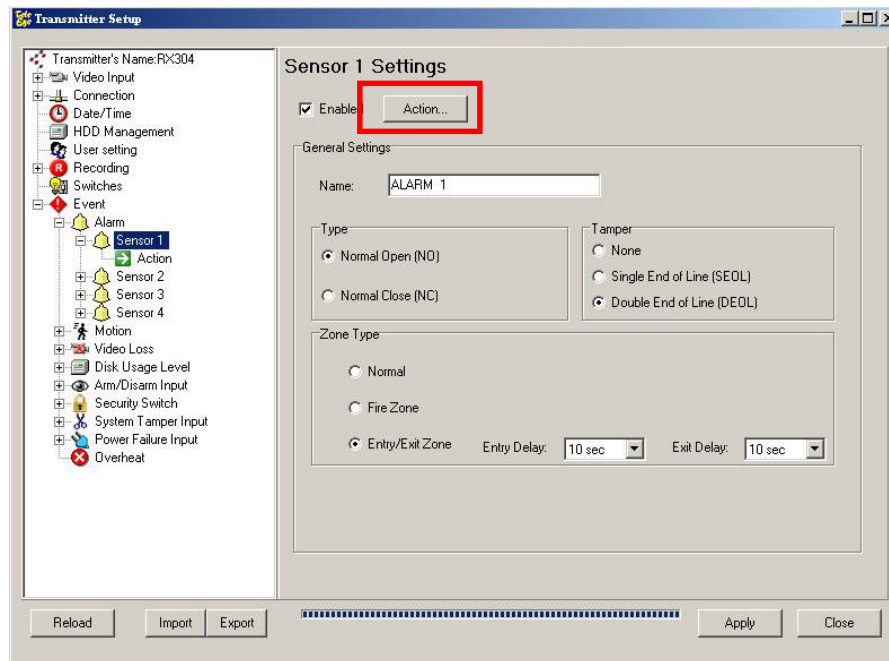

Fig 8.2b
Step 1 : In {Transmitter Setup} panel, click [Event] → Any event option to pop up any event setting panel. Click [Action] button near [Enabled] checkbox to pop up {(Event) Action} panel as shown on Fig 8.2b.